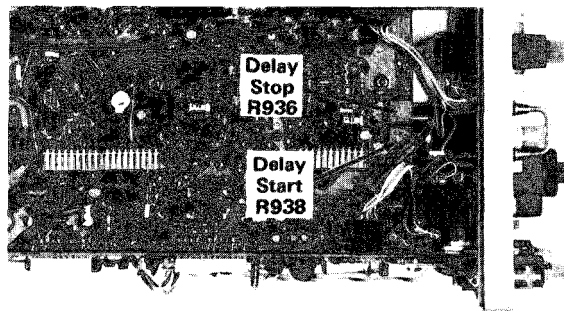

Fig. 5-23. Location of Delay Start and Delay Stop adjustments.
c. ADJUST-Delay Start adjustment, R938 (see Fig. 5-23), so the left side of the intensified zone starts on the leading edge of the second time marker.
f. ADJUST-Delay Stop adjustment, R936 (see Fig. 5-23), so the left side of the intensified zone starts on the leading edge of the tenth time marker.